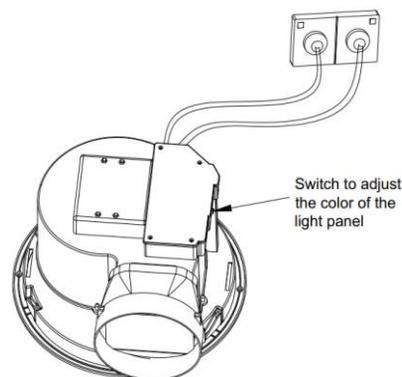

Fig 3.
11. **There is a switch to adjust the color temperature on back of the fan panel. Choose the color temperature according to your personal preference. CW is cool white, DL is daylight, and WW is warm white. (Fig 3)**